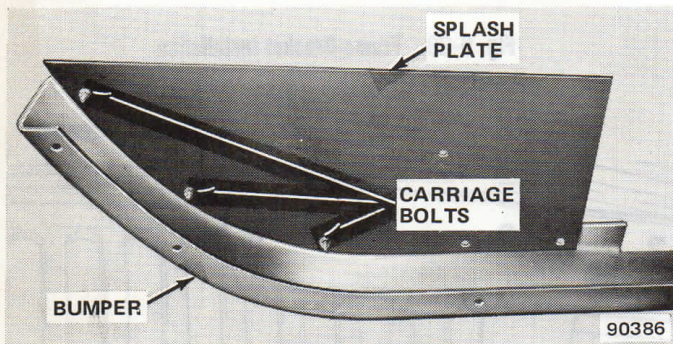

Fig. 5-31 Splash Plate Installation
(14) Install fairlead on front support. Position fairlead on top of support and install attaching bolts. Install 3/8 x 1 bolts at outer ends of fairlead and 3/8 x 3/4 bolts from bottom, through front support and into fairlead. Install lockwashers and nuts on outer bolts and tighten all bolts to 18 foot-pounds (24 N•m) torque.
(15) Install splash plates on special equipment bumper (fig. 5-31). Position splash plates under upper flange of bumper and align holes in plate and bumper (fig. 5-25). Attach plates using 1/4 x 1 slotted-head carriage bolts and tighten bolts to 5 foot-pounds (7 N•m) torque.